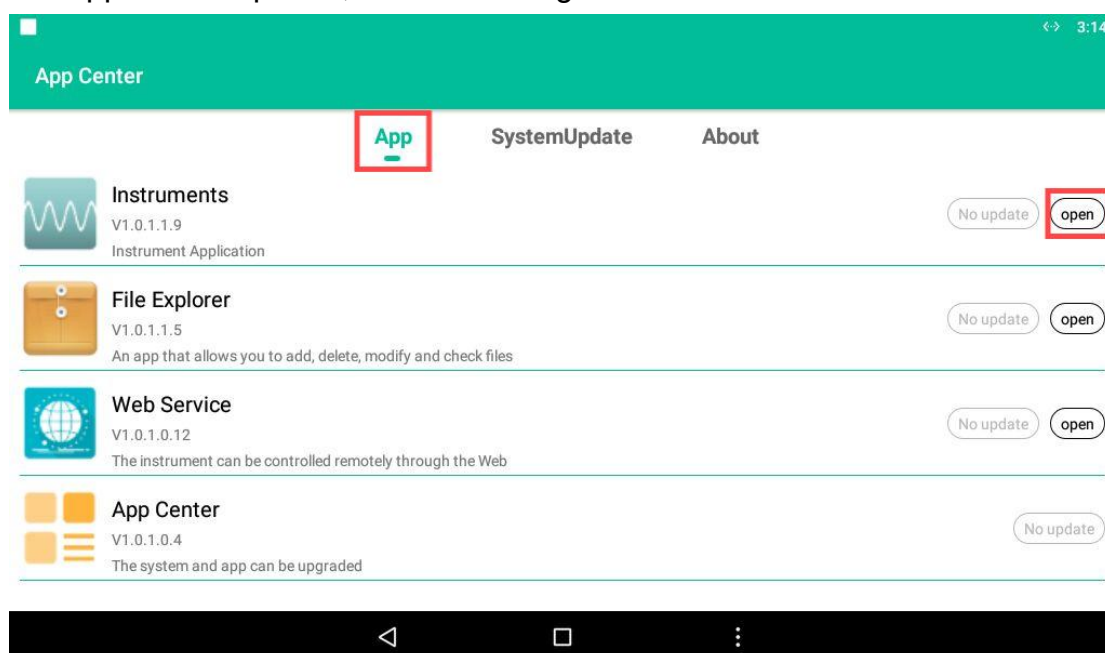

Figure 1-3
1. In the **"App"** directory of "App Center", click **"open"** the corresponding App can be opened, as shown in Figure 1-3.